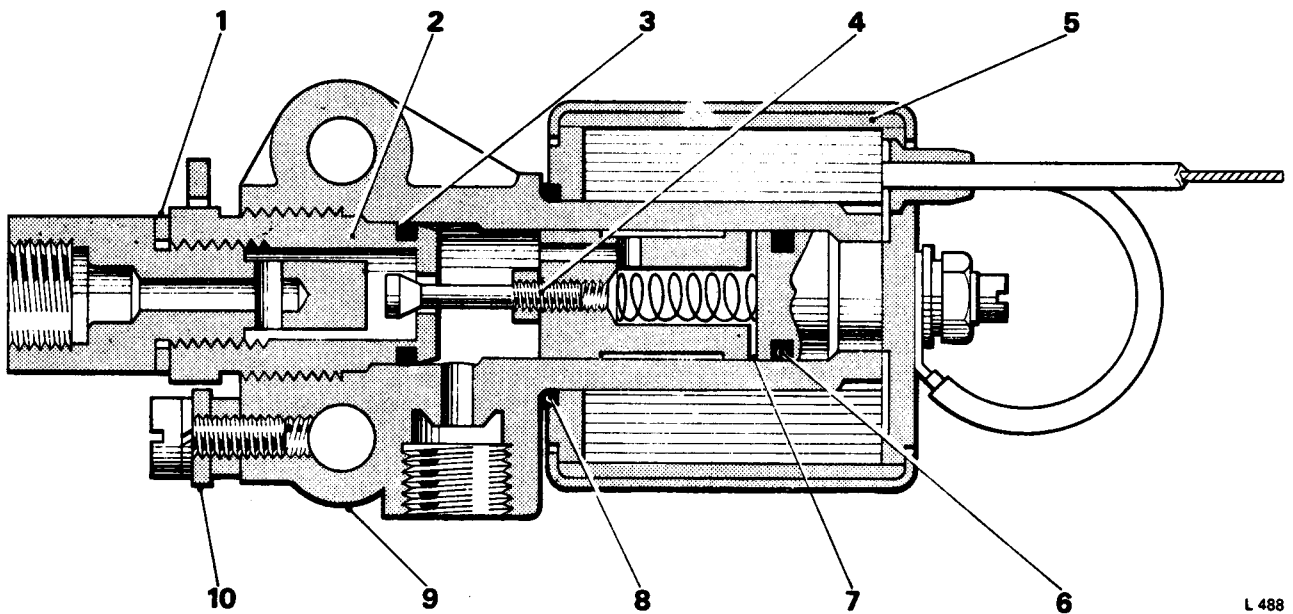

FIG. S73 SECTIONAL VIEW OF A SOLENOID VALVE
- C. Failure of the valve to release (open) could be due to the bobbin being jammed (*see Fig. S73*). Dismantle the valve and examine; check that the armature release spring is free.
- D. Failure of the valve to hold pressure may be due to a damaged valve or valve seat (*see Fig. S73*). To remedy this, remove the valve and inspect the valve seat for score marks; renew one or both components if necessary.